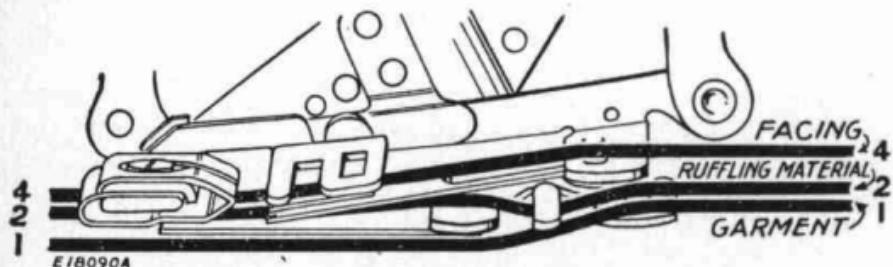

FIG. 65. CORRECT POSITIONS FOR THE MATERIALS
- (1) Insert the material to be ruffled between the two blue blades **Line 2**, Fig. 65.
- (2) Place the material to which the ruffle is to be attached under the separator blade **Line 1**, Fig. 65.
- (3) Place the facing material over the upper blue blade **Line 4**, Fig. 65.